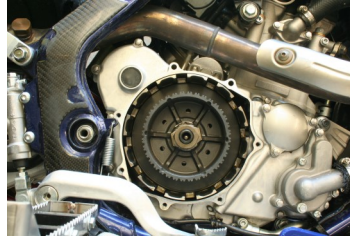

Figure 2
- Apply Loctite #272 to nut (figure 1). Install stock nut and washer. Tighten to manufactures specifications. (figure 2)